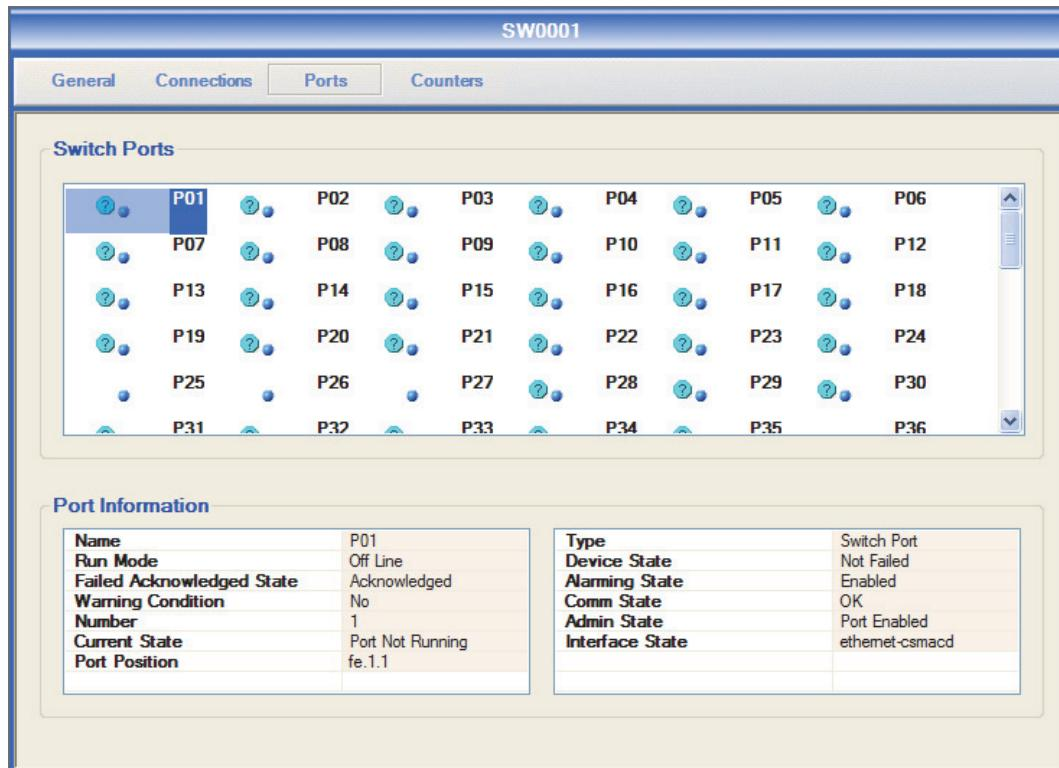

Figure 9-4. Ports Tab for a Switch
1. Click the **Ports** tab in the Information pane to display the Ports tab (Figure 9-4).
Alarming State	Whether alarming for the port is Enabled or Inhibited . To change the Alarming State: <ul style="list-style-type: none"> • Right-click the port name in the Switch Ports pane and choose Inhibit Device Alarming or Enable Device Alarming from the context menu (Figure 9-4). Inhibiting alarms acknowledges any unacknowledged alarms for the port.